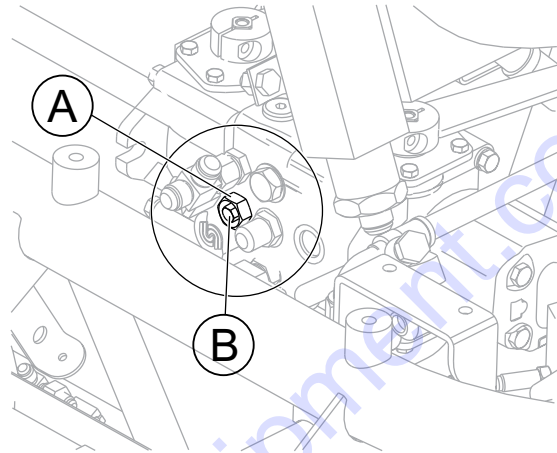

Figure 28. Charge Pressure Adjustment
5. Loosen 1-1/16" jam nut on charge relief valve (Item A, Figure 28).
6. Using a 1/2" socket, adjust the small hex nut within the larger hex jam nut (Item B, Figure 28).